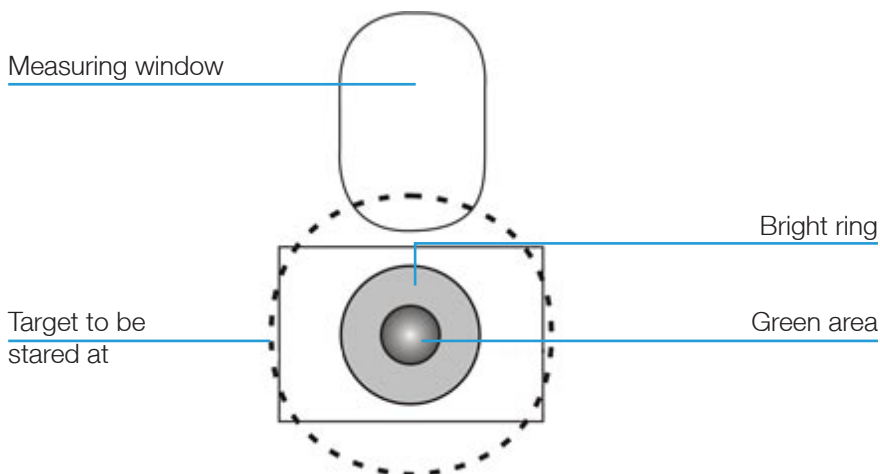

Fig. 6
2.4 Viewed from the Observation Window (as shown in Fig.6)